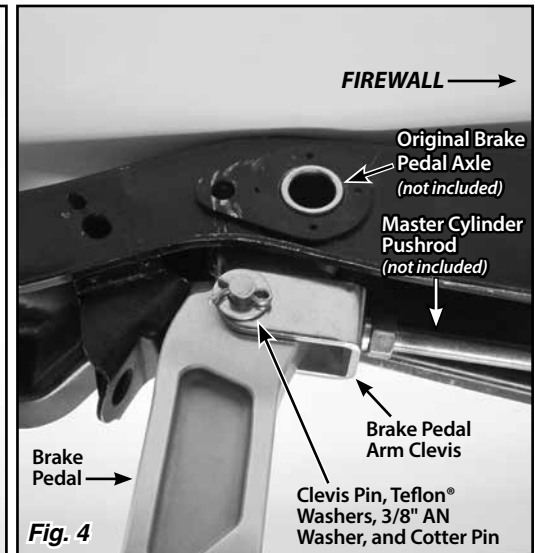

Fig. 4
Step 7: Raise the master cylinder pushrod with the new brake pedal arm clevis up into position on the brake pedal. Insert the Teflon® washers on both the left and right sides of the pedal, between the pedal and the clevis. Install the 3/8" clevis pin. Install the 3/8" AN washer and cotter pin on the end of the 3/8" clevis pin. Fig. 4